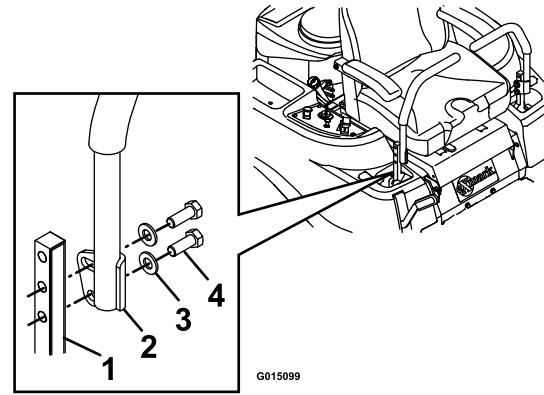

Figure 19
1. Remove the hardware holding the control lever to the control arm shaft (Figure 19).
2. Loosen the lower bolt just enough to pivot the control lever fore or aft (Figure 19). Tighten both bolts to secure the control in the new position.